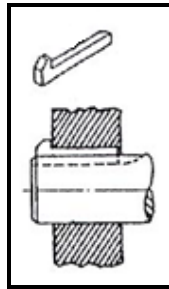

FIGURE 1.11
1.11 Identify the type of key in FIGURE 1.11 below.